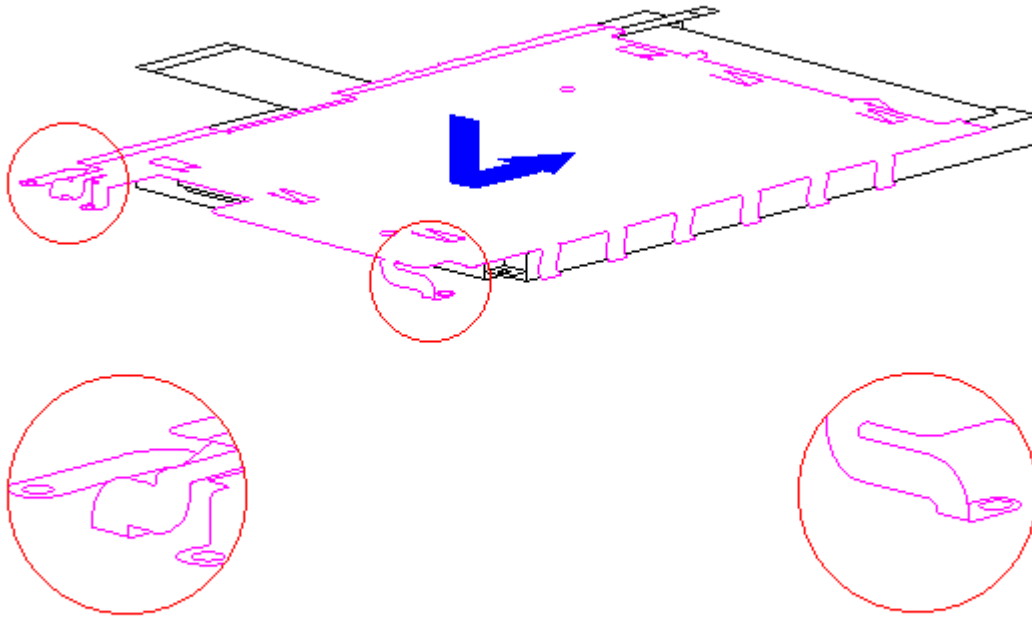

Figure 3-112. Placing the Display Shield on the CSTN (9.5 inch) Panel (Models 400 and 410)
3. Slightly lift the tabs on the left side of the display shield and slide the shield onto the CSTN (9.5 inch) panel. Ensure that the LIF connector end of the display cable is exposed on the right side of the CSTN (9.5 inch) panel (Figure 3-112).